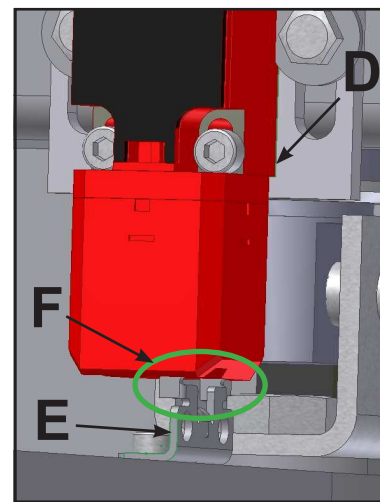

Fig 4a Adjusting the CE microswitch on ERGO140 and AR200:
**ERGO140** and **AR200**, see **Fig. 4a**, page 19.